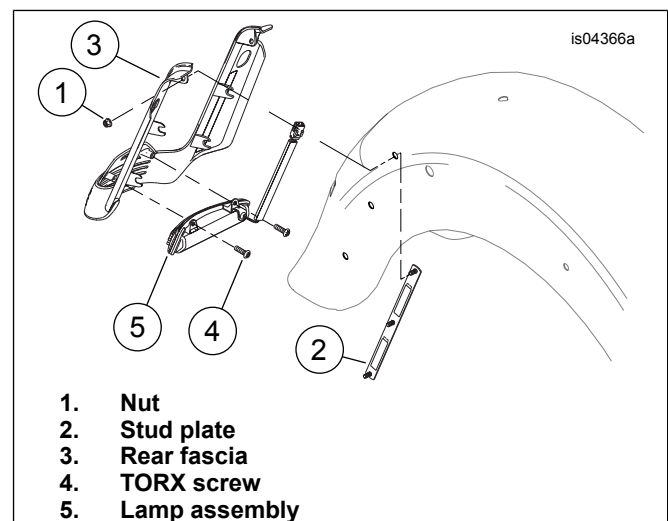

Figure 1. FLHX Rear Fascia and Lamp
3. See Figure 1. Remove six flange nuts (1) from the right and left fender stud plates (2).
11. See Figure 1. Remove the two T-20 TORX® screws to release the light assembly from the fascia. Save the screws for installation of the new light.